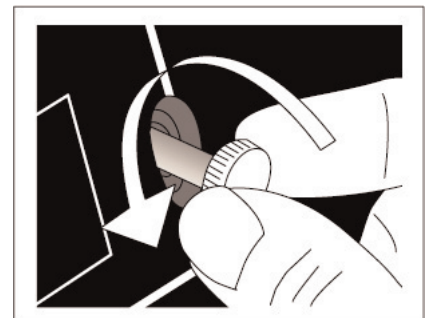

Figure 18 – Opening Air Vent Screw
1. Fill fuel tank with kerosene or No. 1 fuel oil. Turn the Air Vent Screw 3 full turns counterclockwise from the factory closed / fully clockwise position. (This will allow air to escape during operation). See Figure 18.